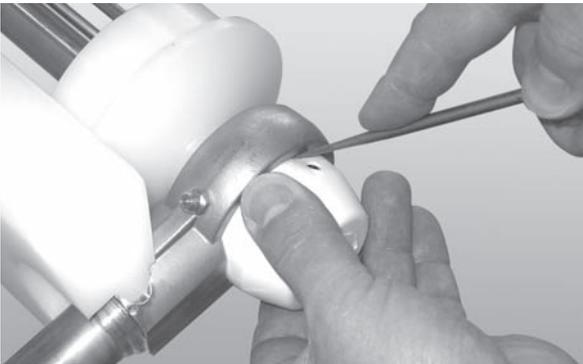

Figure 71
- Remove the bearing cover (**Figure 71, item 1**).